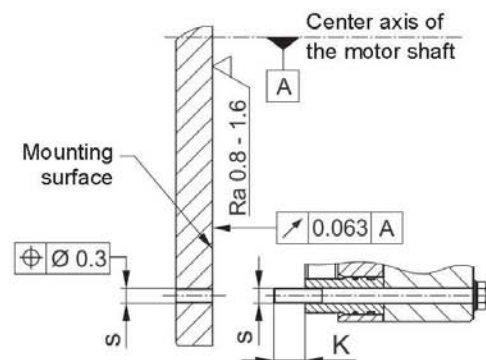

Fig. 4
- ❑ The positional tolerance of the threads for the hexagon head screws (5) must not exceed 0.3 mm.
- ❑ The tolerances of the hub bore (10) and the shaft must be selected so that the hub toothing (10) is not widened. Widening of the toothing leads to the rotor (3) jamming on the hub (10) and therefore to brake malfunctions. Recommended hub – shaft tolerance H7/k6. If the hub (10) is heated for better joining, the O-ring (11) must be removed beforehand and re-mounted after hub installation. The max. permitted joining temperature of 150 °C must not be exceeded.
- ❑ Dimensioning of the key connection according to the requirements shaft diameter, transmittable torque and operating conditions must be carried out. For this, the corresponding user data must be known or the customer must carry out the dimensioning according to the valid calculation basis DIN 6892. For the calculation, a hub quality of $Re = 300 \text{ N/mm}^2$ should be used. The length of the key must lie over the entire hub (10).
- ❑ The mounting dimensions and the tapped holes s with depth $K + 2 \text{ mm}$ (K = screw projection) must be provided according to the Catalogue or the applicable assembly drawing (Fig. 4).